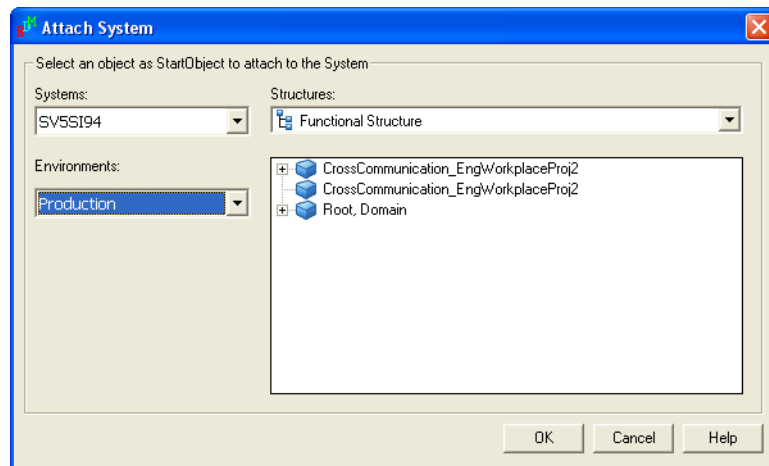

Figure 34. Select System and Start Object Dialog
- Finally, System, Environment and Start Object can be set within the Bulk Data Manager using the “Attach System” menu entry or the toolbar. The Dialog shown in Figure 34 pops up.